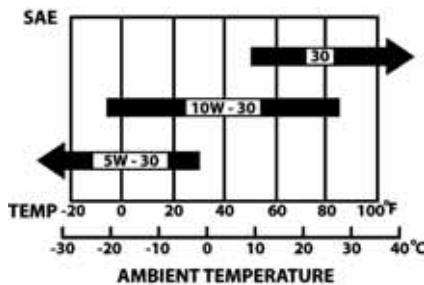

FIGURE 20: Recommended Oil Viscosity
SAE 10W-30 is recommended for general temperature use. Refer to Figure 20 for information on other viscosities that may be used. Other viscosities shown in chart may be used when average temperature in your area is within indicated range.
<ul style="list-style-type: none"> <li><input type="checkbox"/> Socket wrench with 12 mm socket</li> <li><input type="checkbox"/> Oil drain pan or other container suitable for holding engine oil</li> <li><input type="checkbox"/> Clean cloth</li> <li><input type="checkbox"/> Unused engine oil (SAE type indicated in Figure 20)</li> </ul>
12. Pour new (unused) engine oil into oil fill hole. (See Figure 20 for recommended oil type). Do not overfill.